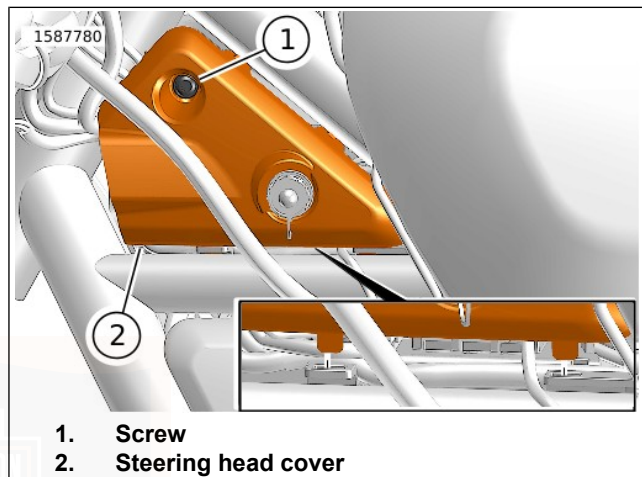

Figure 62. Steering Head Cover (left side typical)
1. See Figure 62. Remove screw (1).
2. Tip side cover (2) out slightly while lifting up.